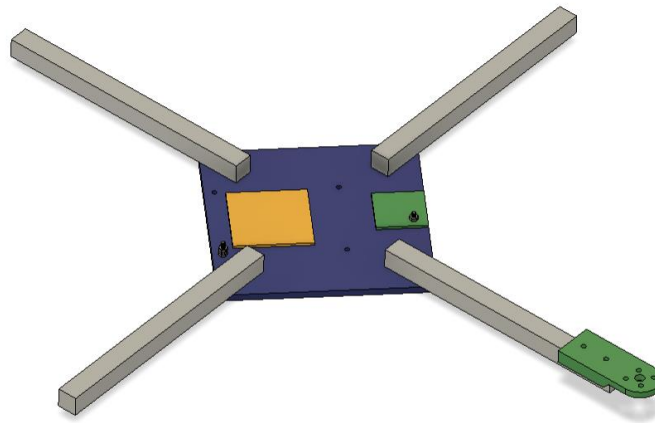

Figure 4: CAD Model of the drone (Fusion 360). The interface (green) at the end of the wood beam has been 3D printed.
- The CAD model of the drone (cf. Figure 4)